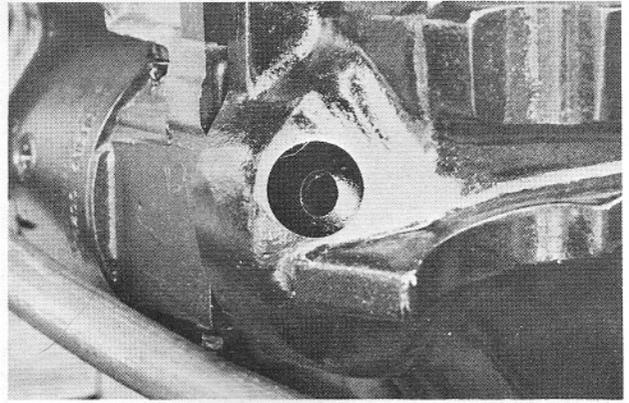

Figure 7
**STARTER AND UNIVERSAL JOINT LUBRICATION** An oil hole has been provided in the lower left hand side of the engine bell housing to allow access to the starter gear and shaft for lubrication purposes (Figure 7). A light coat of engine oil will prevent any oxidation here which may be caused by the presence of water in the bilge area.